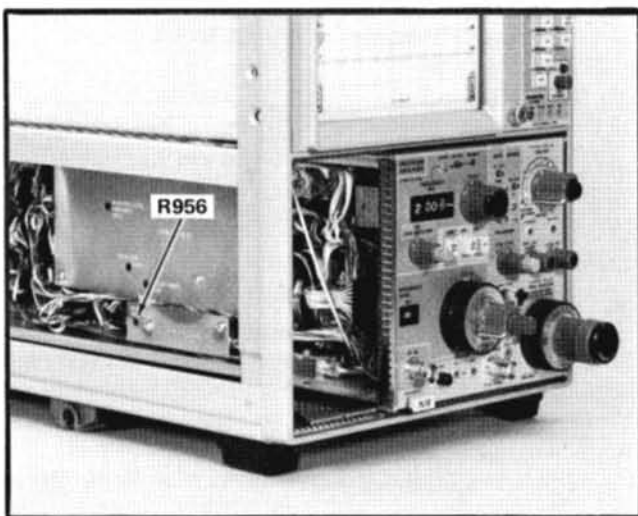

Fig. 4-13. Location of R956, calibrator output level adjustment.
d. Change the marker output of the time mark generator to 10 ns and locate the 1800 MHz marker. Adjust the Center Freq Upper Limit R1441 (Fig. 4-13) to center the 1800 MHz marker on the graticule. Decrease the FREQ SPAN/DIV to 2 MHz for the final adjustment of R1441. Note: Remember to approach the 1800 MHz FREQUENCY readout from the low side.
- 4) The calibrator output level can be adjusted by removing the left vertical plug-in unit and the oscilloscope left side panel to gain access to the 7L12 calibrator. Adjust R956 (Fig. 4-13) for an output level of −30 dBm (7.07 mV RMS).